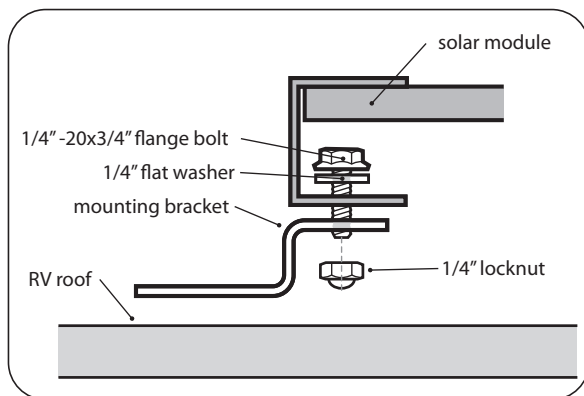
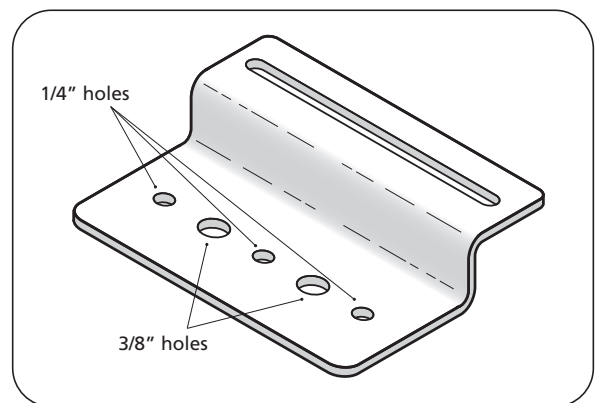

Fig. 3.2. Attaching solar panel to 5-hole mounting bracket.
Fig. 3.3. 5-Hole Mounting Bracket.
4. Fix the mounting brackets (Fig. 3.3) to the frame of the previously positioned solar panel using the slotted opening and the $\frac{1}{4}$ "-20 x $\frac{3}{4}$ " Flange Bolt, Nylon Locknut and flat washer (Fig. 3.2).
7. The centre and end holes on the mounting brackets (Fig. 3.3) are sized to accept the $\frac{1}{4}$ " hardware supplied with the unit. If the use of larger sized hardware is desired, $\frac{3}{8}$ " holes can be used.